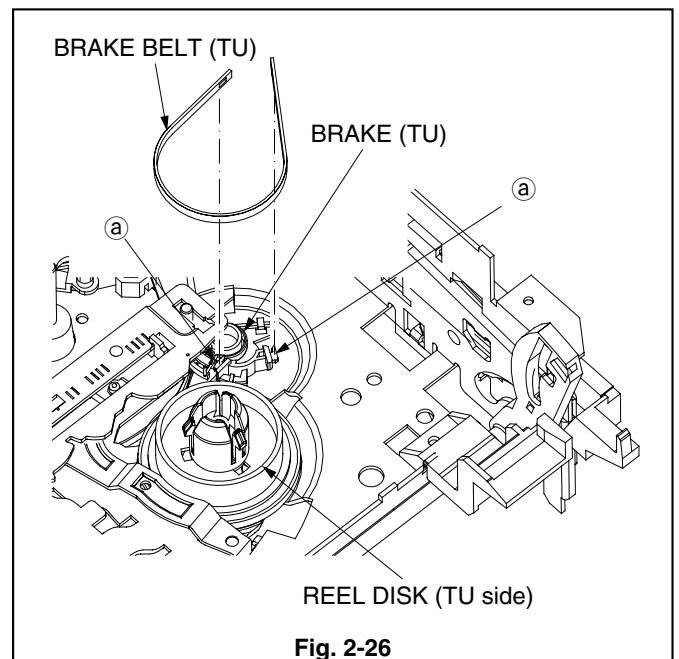

Fig. 2-26
1. Lift the BRAKE BELT (TU) shown in the Fig. 2-26 to remove it from the REEL DISK (TU side).
2. Release the two catches (a) of the BRAKE (TU) shown in the Fig. 2-26 to remove the BRAKE BELT (TU).
1. Install the BRAKE BELT (TU) shown in the Fig. 2-26 to the BRAKE (TU).
2. Hook the BRAKE BELT (TU) shown in the Fig. 2-26 to the REEL DISK (TU side).
**Note :** Install the BRAKE BELT (TU) so that its Felt Side touches the REEL DISK (TU side).